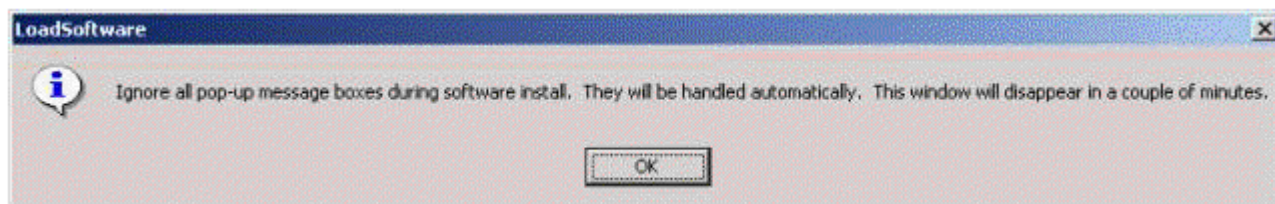

Figure 8-168 R1.1.0 Software Message
- 5.) As indicated, press any key to continue. The process is completely automated and provides you with messages as to its status. Application Software provides the message in Figure 8-168.